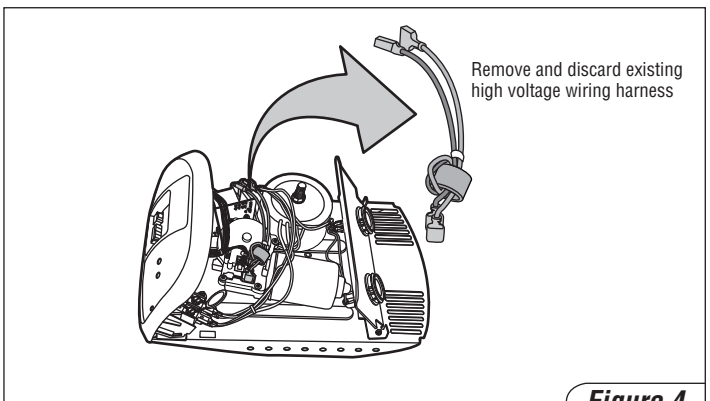

Figure 4
6. Disconnect both the high and low voltage wiring harness from the motor. The existing high voltage harness is not used and should be discarded (Figure 4). The replacement motor has an integrated high voltage harness.